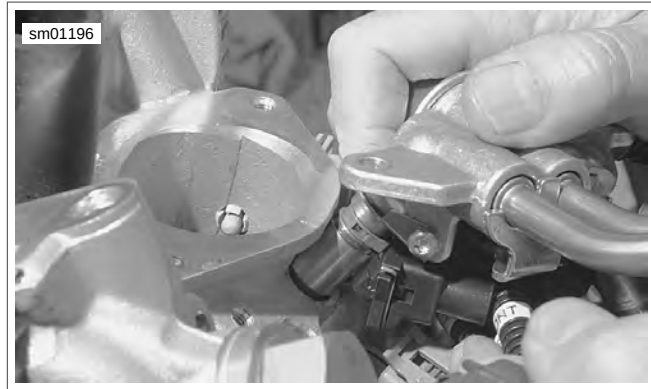

Figure 4-9. Front Injector
12. See Figure 4-9. Pull front injector from front intake runner.